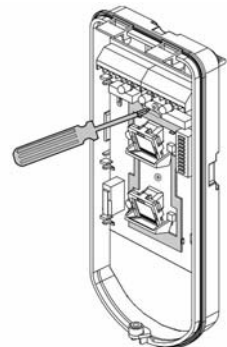

Figure 8
14. To readjust the Standard Swivel when the PCB is installed (Figure 8):
- b. Use a Philips screwdriver to release the locking screw (see Figure 8).